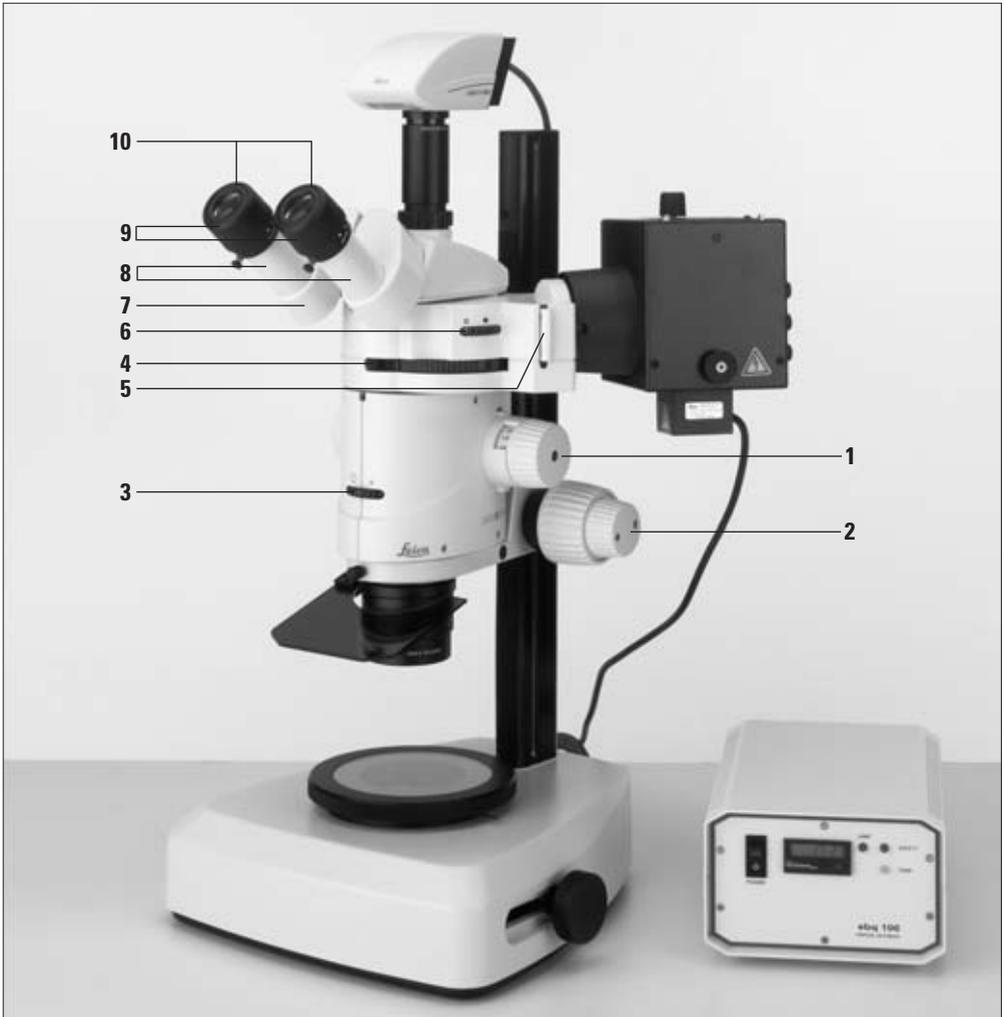

Fig. 1 Leica MZ16 F with trinocular video/phototube and Leica digital camera
Figure 1 is located on page 3, and item 2 is the focusing drive.